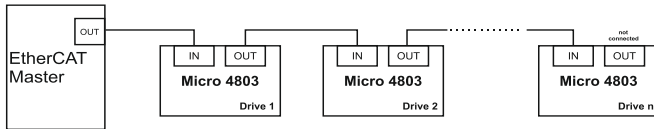

Figure 3-66 EtherCAT network linear topology
- Linear, when the OUT port of the last drive in the chain remains not connected. Master is connected to IN port of the first drive; OUT of the first drive is connected to IN of the following drive; OUT of the last drive remains unconnected. See *Figure 3-66* for a visual representation of the linear topology.